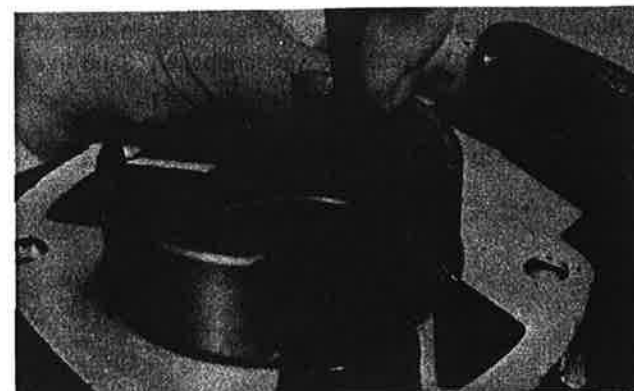

Fig. 3-3-20
3. Insert each ring into cylinder. Push down approximately 3/4" using piston crown to maintain right-angle to bore. Measure installed end gap. If beyond tolerance, replace set. (Fig. 3-3-20)